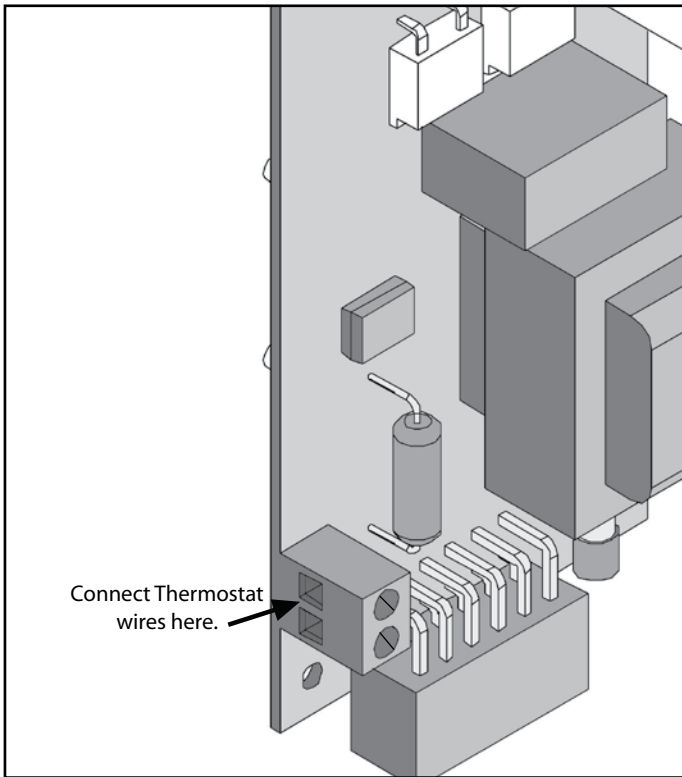

Figure 26: Thermostat wire location
3. The harness will need to be unplugged from the board in order to move cabinet side away from the unit. Once the harness is unplugged you can easily access the circuit board and will be able to attach the thermostat wires to the thermostat connection shown in Figure 26.